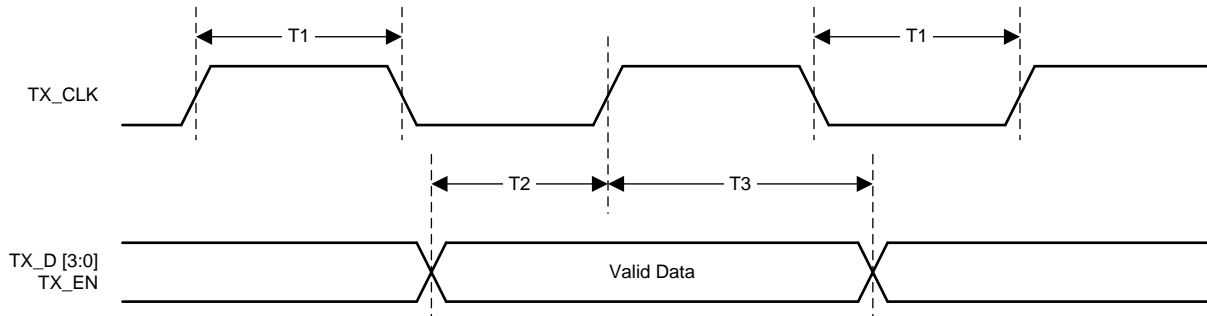

Figure 6. 10-Mbps Transmit Timing
(1) Ensured by production test, characterization or design.
(2) See Figure 6.